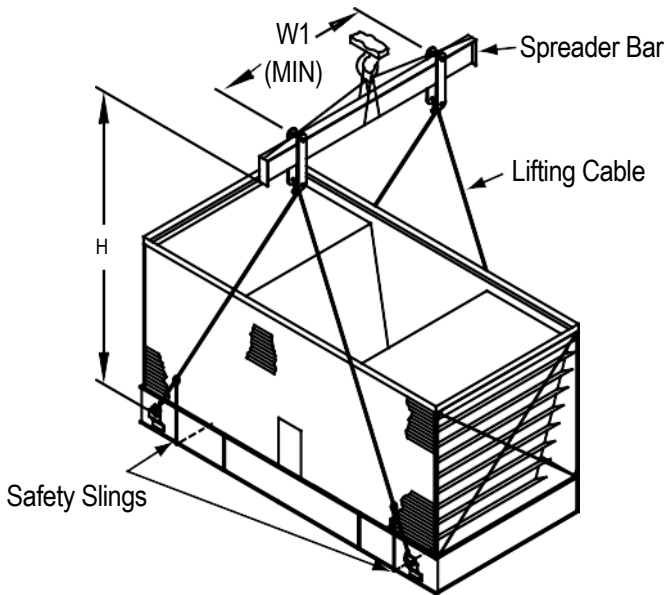

Figure 3. Lower Section Lift
2. Position the lower section on the unit supports and bolt in place. Refer to **Figure 3** on **Page 12** and **Anchoring** on **Page 8**.